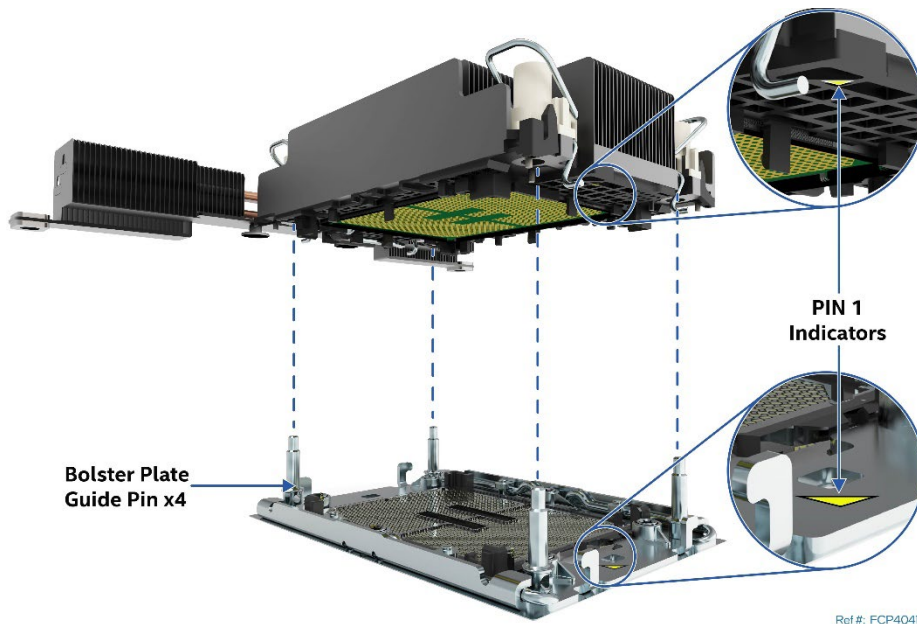

Figure 87. PHM Alignment with Socket Assembly
3. Align the Pin 1 indicators of the processor carrier clip and processor with the Pin 1 indicator on the bolster plate located around the processor socket (See Figure 87).